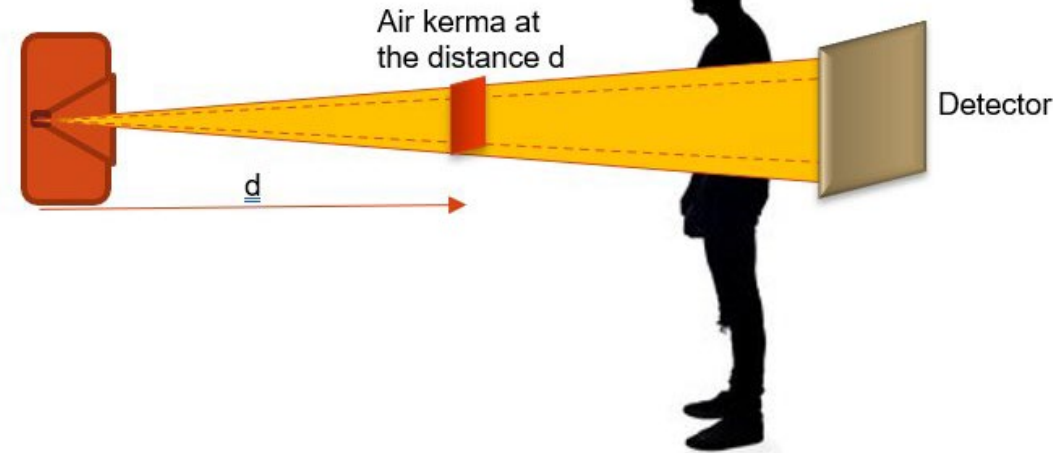

Fig. 24 – Air kerma
- The air kerma (K_a) of an X-ray beam (Fig. 24) depends on the current time product (Q), the voltage squared (U^2), the inversed square distance to the source (d^{-2}) and the X-ray tube constant C as follows :